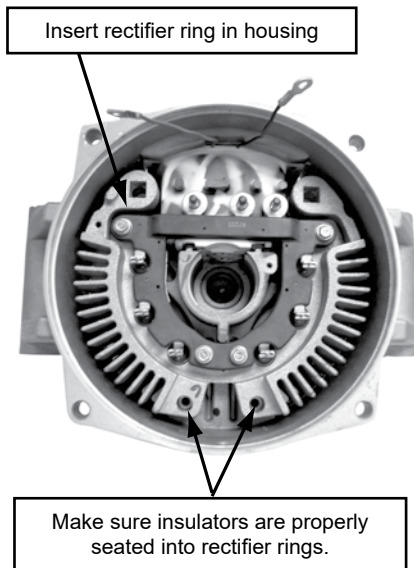

Fig 6
Step 7: Install rectifier and make sure insulators are properly seated. See Fig 6